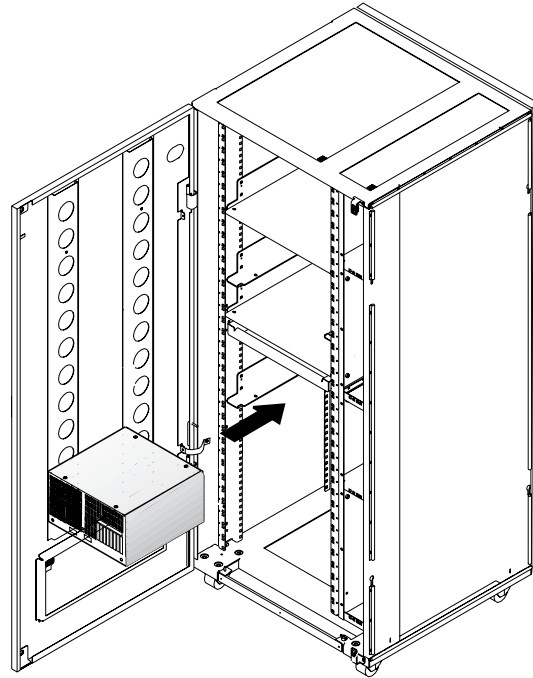

Figure 1-19. Installing the 3172 NNP-A Unit in the Controller Expansion (Rear Side)
2. \_\_\_\_ Slide the network node processor unit in the controller expansion from the rear side as shown in Figure 1-19 on page 1-17.